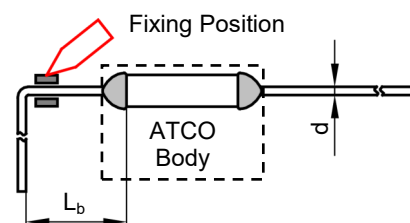

FIGURE CR-2
2. When bending leads, please use pincher or similar tools to fix the product as shown in Fig.CR-2, to avoid damaging the product.